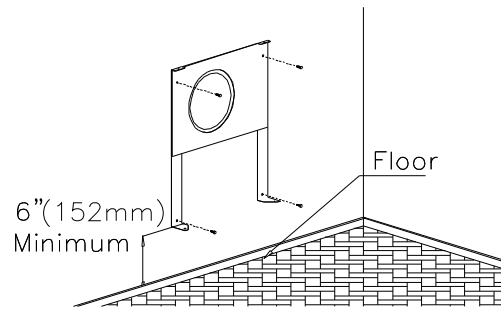

Figure 6
3. Place hanging bracket over the hole. After leveling the hanging bracket, mark the four holes as shown in figure 6.